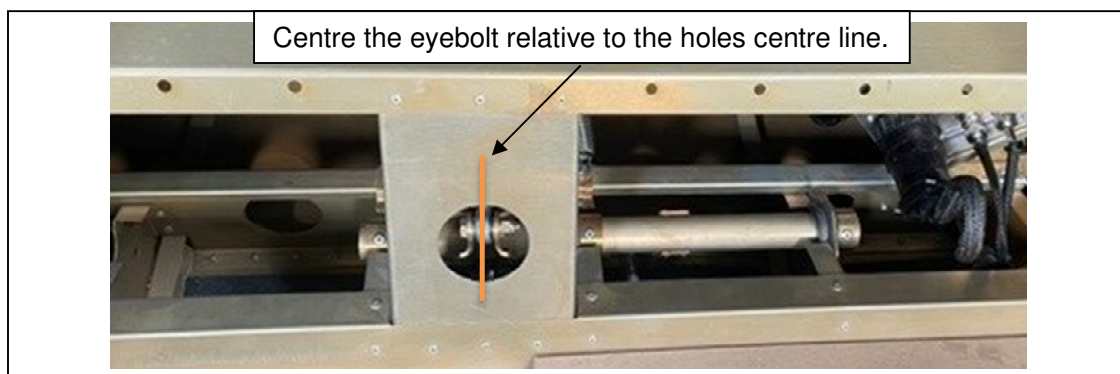

Figure 4: Centering of the elevator torque tube
- Step 7. Ensure that the elevator torque tube (CT-AEL-002-C-C-5) has been centred. To do this ensure that the eyebolt, that can be seen in the hole cut-out, is roughly positioned along the holes centre line, as seen in Figure 4.